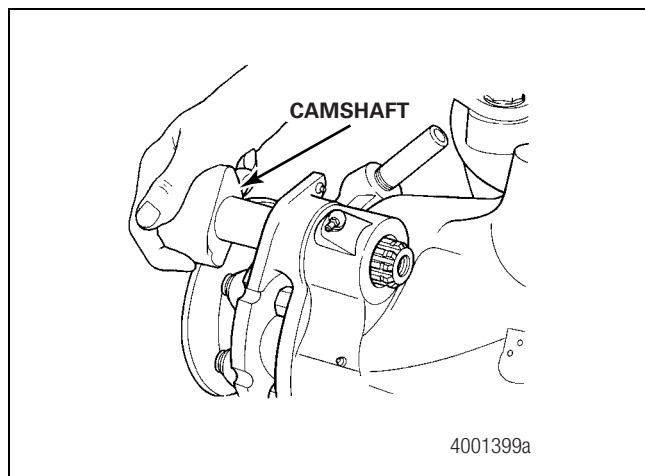

Figure 5.22
4. Install the splined end of the camshaft through the bearing cage and the differential carrier. Be careful not to damage the bushings and the oil seal when you install the camshaft. Figure 5.22.